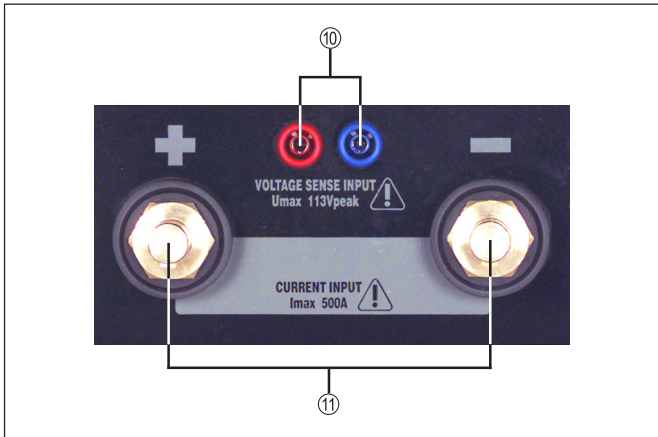
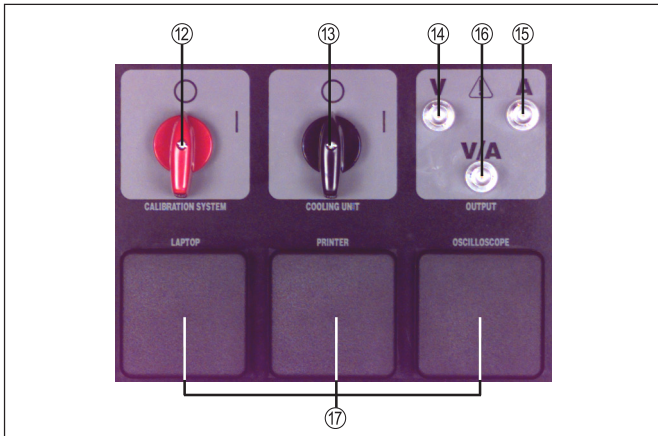

Fig.3 Jacks and connectors at front panel
Fig.4 Controls/connectors at rear panel
- ②⑦ **Measurement line** ... to connect calibration system (fig 4.) with an external measuring instrument.
- ②⑧ **Torch control connection cable**
- ②⑨ **Fitting piece for Fronius central connector**
- ③⑩ **Fitting piece for Euro central connector**
- ③① **Current cable +/- with sense lines** ... connection between output of welding unit and calibration system (fig. 3, current connector ①① and sense input ①⑩).